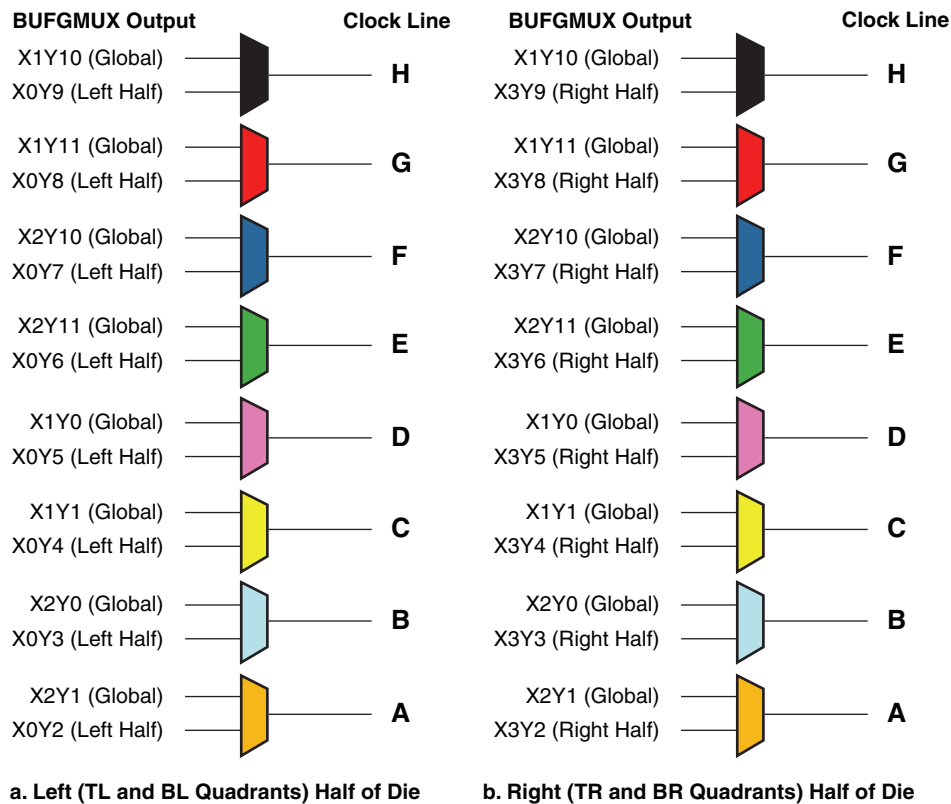

Figure 47: Clock Sources for the Eight Clock Lines within a Clock Quadrant
Each of the eight clock signals in a clock quadrant derives either from a global clock signal or a half clock signal. In other words, there are up to 24 total potential clock inputs to the FPGA, eight of which can connect to clocked elements in a single clock quadrant. Figure 47 shows how the clock lines in each quadrant are selected from associated BUFGMUX sources. For example, if quadrant clock 'A' in the bottom left (BL) quadrant originates from BUFGMUX_X2Y1, then the clock signal from BUFGMUX_X0Y2 is unavailable in the bottom left quadrant. However, the top left (TL) quadrant clock 'A' can still solely use the output from either BUFGMUX_X2Y1 or BUFGMUX_X0Y2 as the source.